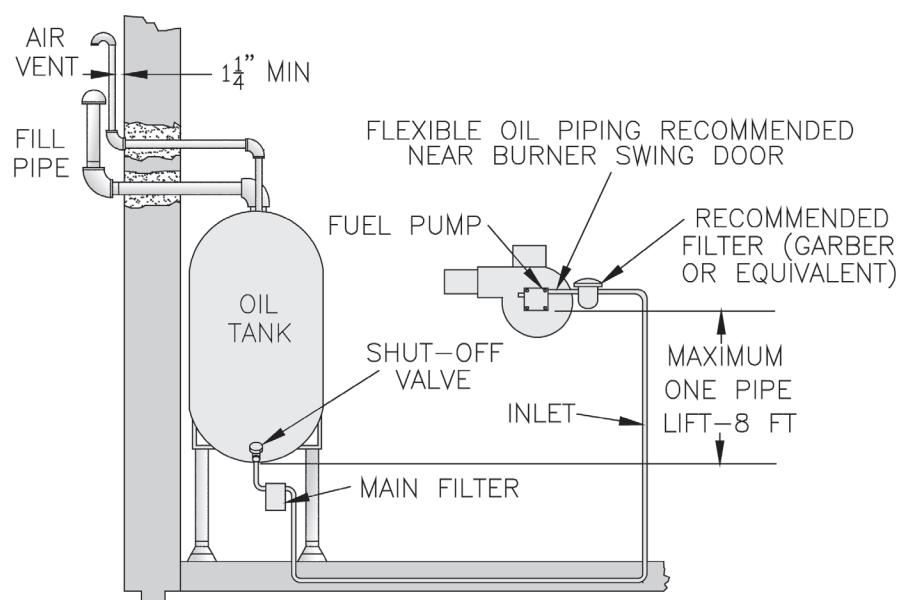

Figure 25: Single Pipe Oil Line
2. The single-stage fuel unit may be installed single-pipe with gravity feed or lift. Maximum allowable lift is 8 feet. See Figure 25.